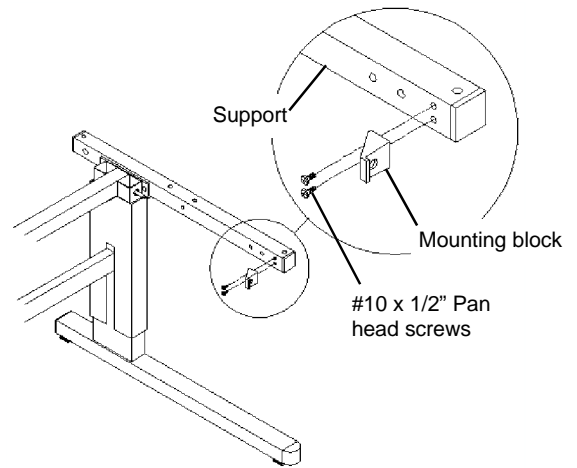

Figure 3a
3. The **Front Crank Assembly** may be installed on either the right or left side. Fasten the **Mounting Block** to the appropriate **Support** using the two **#10 x 1/2"** Pan head screws. Tighten securely. See **Figure 3a**.